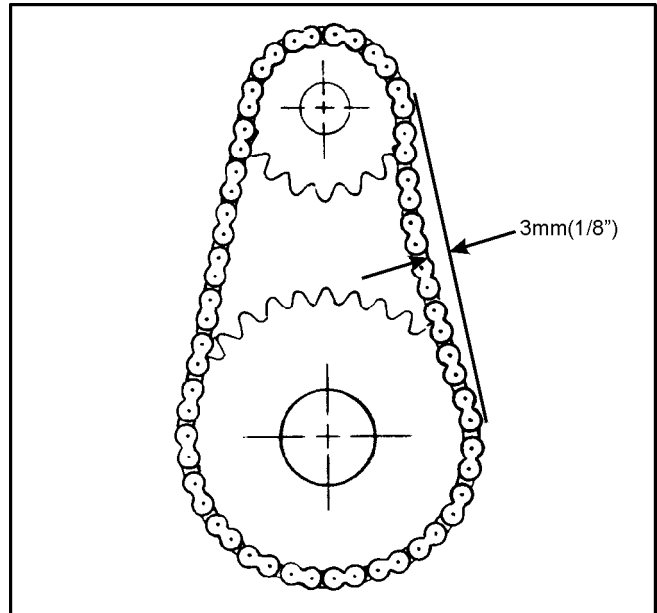

Figure 7-12. Measuring idler chain deflection
To check the idler chain adjustment, push the slack side of the chain and measure the amount of chain deflection (Figure 7-12). Adjust the idler chain tension if deflection is more than 3mm (1/8").
3. Turn the vertical adjustment bolts counter-clockwise to raise the power pack and tighten the idler chains. The idler chains are properly adjusted when the deflection measures 3 mm (1/8"), (Figure 7-12).